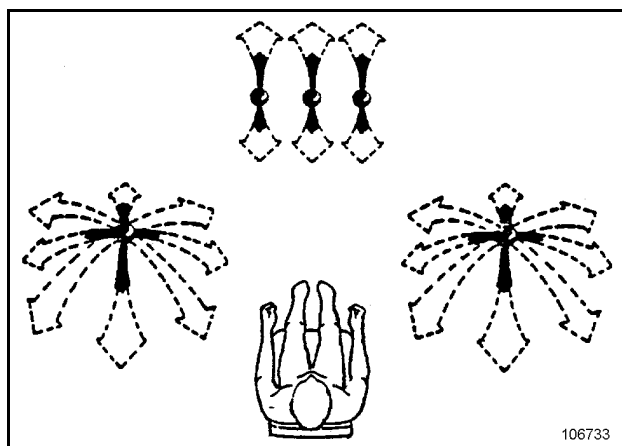

Fig. 3-76:
- Shift both control levers and all pedals repeatedly into all directions (Fig. 3-76:).